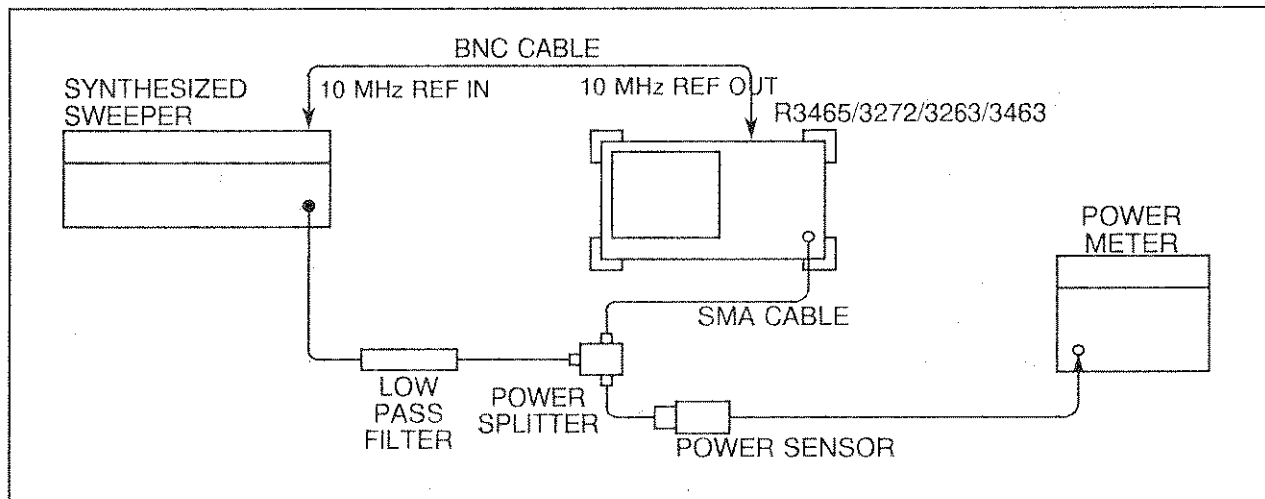

Figure 1-10 Second Harmonic Distortion Test Setup
(1) Zero and calibrate the power meter. Rotate the CAL FACTOR switch to the power sensor's 1.4 GHz calibration factor.
(2) Connect the equipment as shown in Figure 1-10.
(3) Press the **INSTR PRESET** key on the SG1. Set the SG1 controls as follows:
(13) Connect the equipment as shown in Figure 1-10.
(14) Rotate the CAL FACTOR switch to the power sensor's 1.9 GHz calibration factor.
(15) Set the SG1 key for a 0 dBm \pm 0.1 dB reading on the power meter.
(16) On the R3465/3272, press , , , and keys.